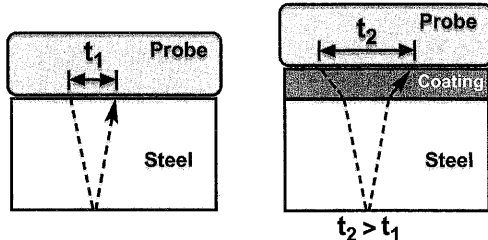

Figure 1
**PosiTector UTGC** and **UTGM** (in single-echo mode) probes determine thickness by measuring  $t_1$  (uncoated) or  $t_2$  (coated), dividing it by two and then multiplying by the velocity of sound for that material (steel). See Figure 1.